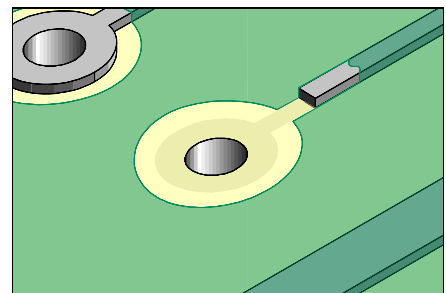

Figure 1: Remove the defective land and remove soldermask from the connecting circuit.
2. Remove the defective land and a short length of the connecting circuit if any. (See Figure 1).
4. Scrape off any solder mask or coating from the connecting circuit. (See Figure 1).